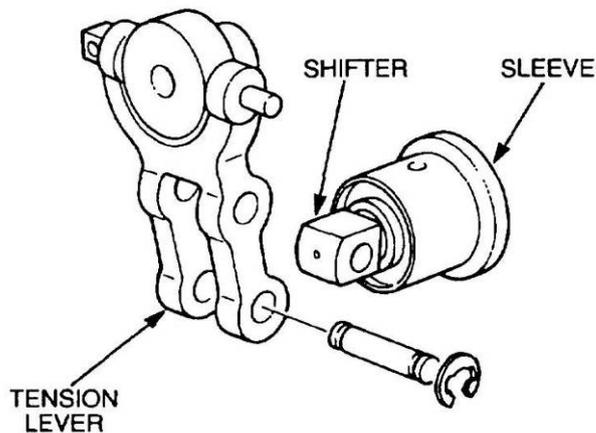

Figure 102 Removal of the Snap-ring and Pivot Pin
- y. Remove the snap-ring from the pivot pin and separate the sleeve and shifter assembly from the tension lever (Figure 102).